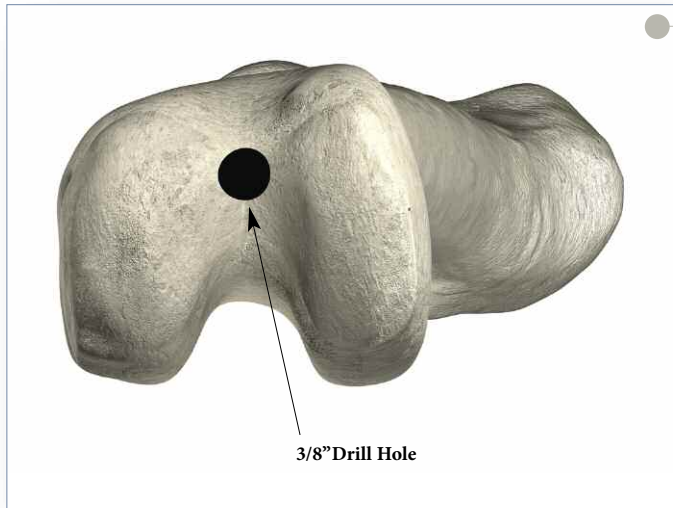

Figure 4
- ▶ The drill hole is located approximately 1cm anterior to the femoral attachment of the posterior cruciate ligament and slightly medial to the mid-line of the distal femur (Figure 4).